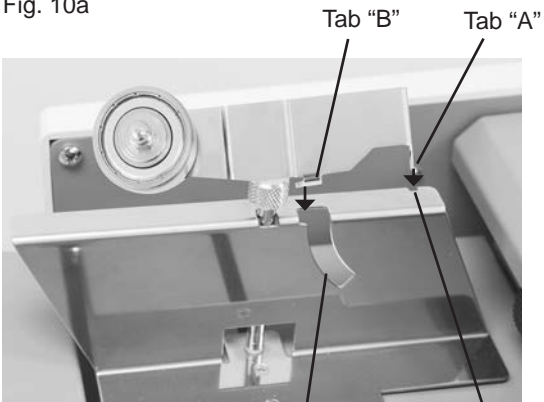

Fig. 10b
- 2. Attach the cross fold paper guide onto the feed tray paper guide (Fig. 10b) and lower guide.